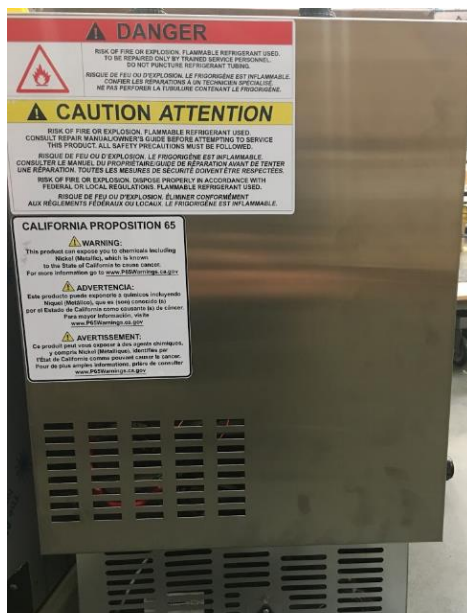

Figure L32: Rear Enclosure Cover installed.
29. Reinstall the Rear Enclosure Cover. See Figure L32.